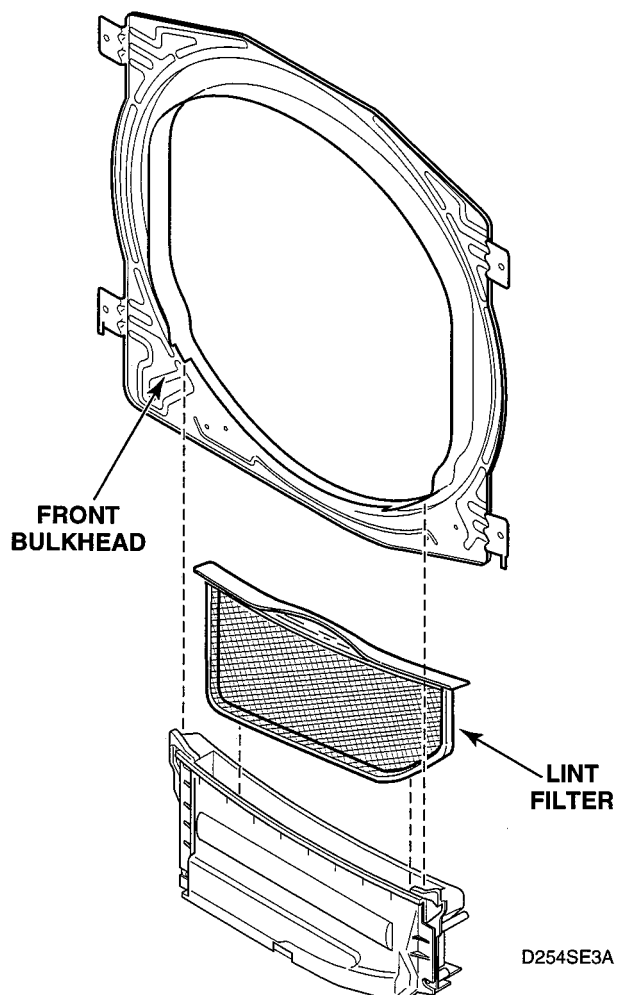

Figure 5-23
29. CYLINDER LIGHT (FIGURE 5-23)
30. CYLINDER LIGHT RECEPTACLE (Figure 5-23)
- Open loading door and remove screw holding lens to the front bulkhead. See figure 5-23.